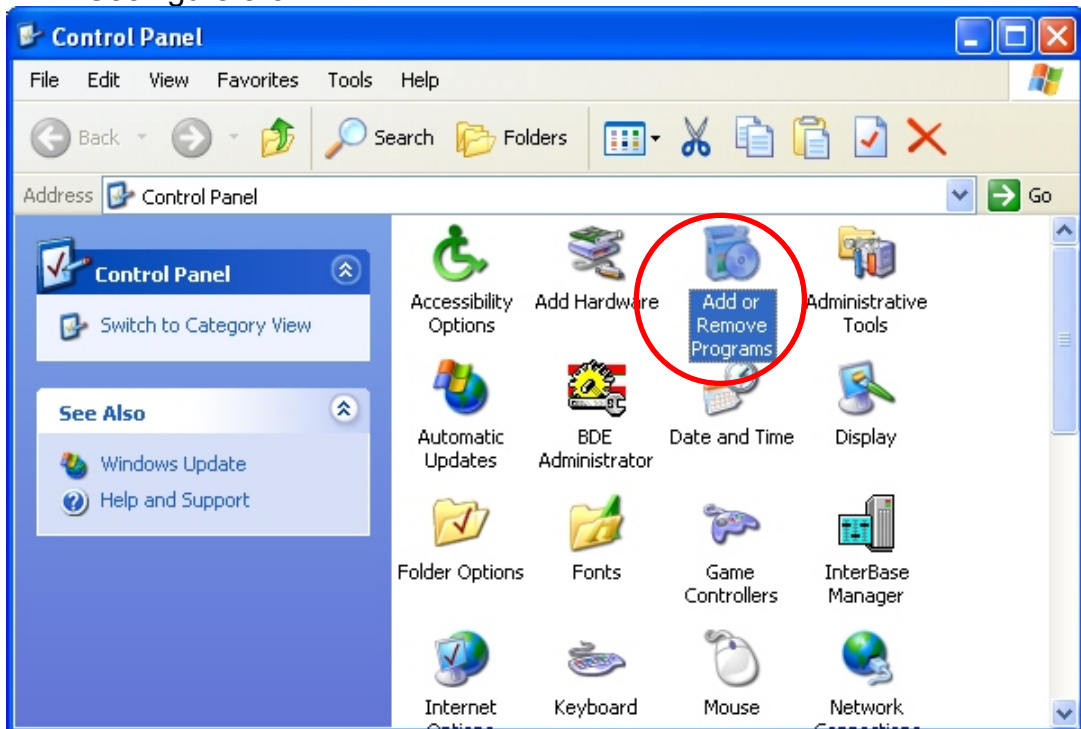

Figure 5-8: “Add or Remove Programs”
Step 2: Double click the “Add or Remove Programs” button icon to open the dialog. See figure 5-8.